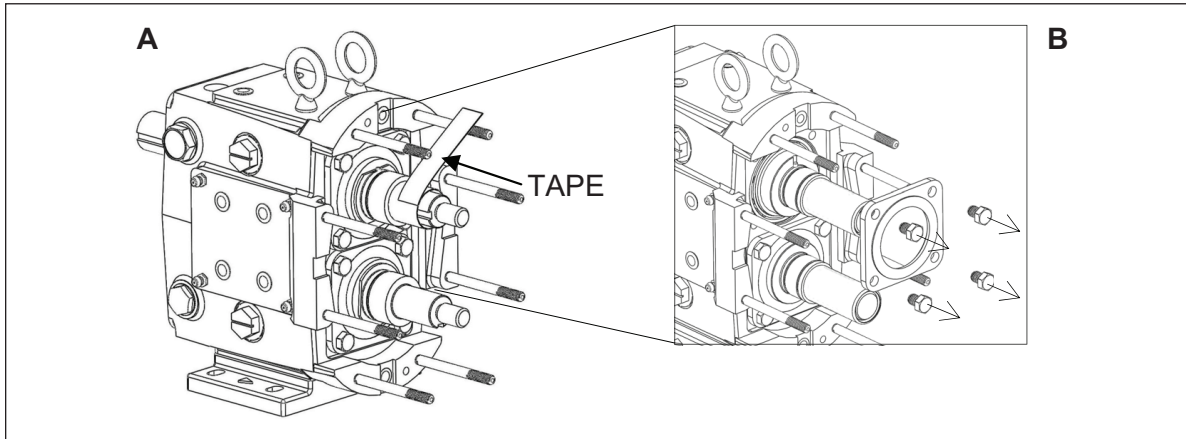

Figure 41. Tape Shafts and Remove Bearing Retainers
3. To prevent damage to the shafts, wrap the splines and rotor nut threads with tape (*Figure 41, A*). Any damage to the splines or threads may require the shaft be replaced. Remove the cap screws holding the bearing retainer and splash plates in place and slide both off the shaft (*Figure 41, B*). If they are stuck, use a flat head screw driver as a wedge to pry them from the gear case or leave them in place and when the shafts are removed they will press off with the shafts. Using a straight edge, remove the liquid gasket used to seal bearing retainer to the gear case.